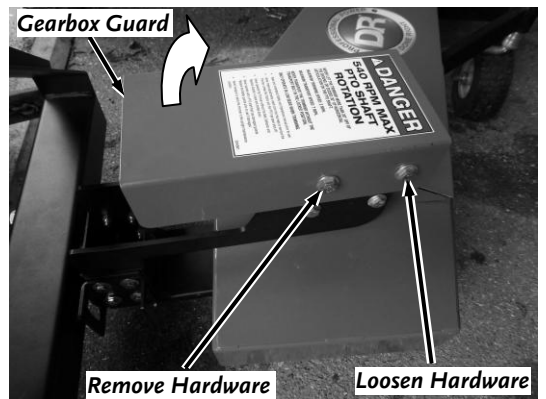

Figure 43
1. Remove the front Bolt, Washers and Locknut from the Gearbox Guard with two 11/16" Wrenches (**Figure 43**).